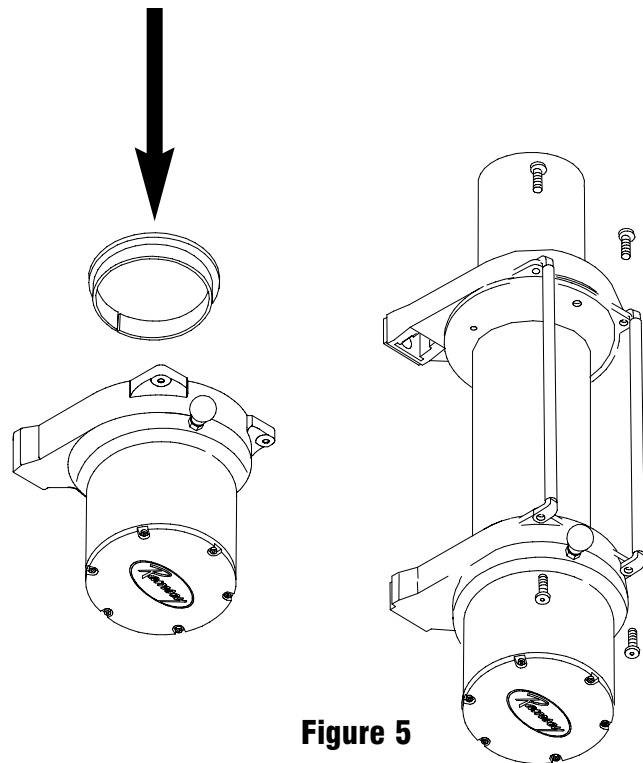

**Figure 4**
5. Determine position shifter knob needs to be for your application. **Note:** Shifter knob cannot be positioned too low or it will interfere with the feet on the Gear End Bearing (see Range of Position in Figure 4).